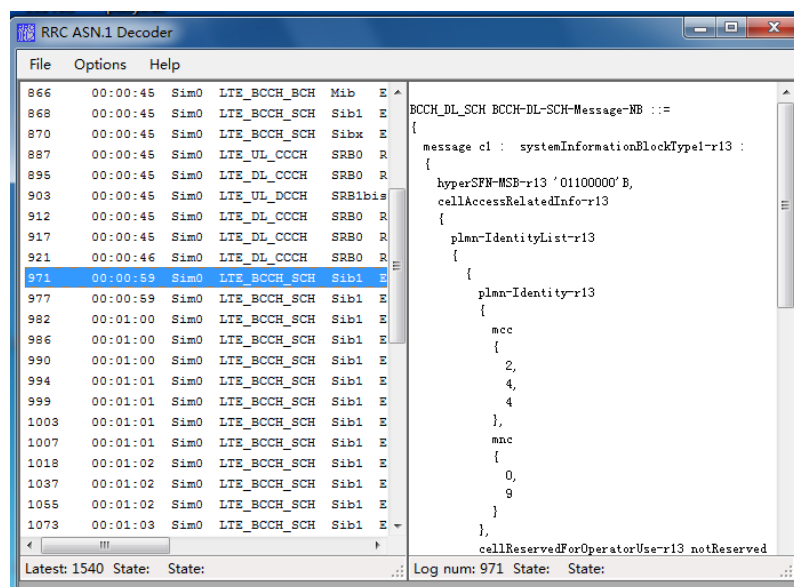

Figure 42. Example of message and its decoded form
- 6) Auto play the ASN messages. See Figure 42.
3) Auto play the ASN messages. See Figure 42.